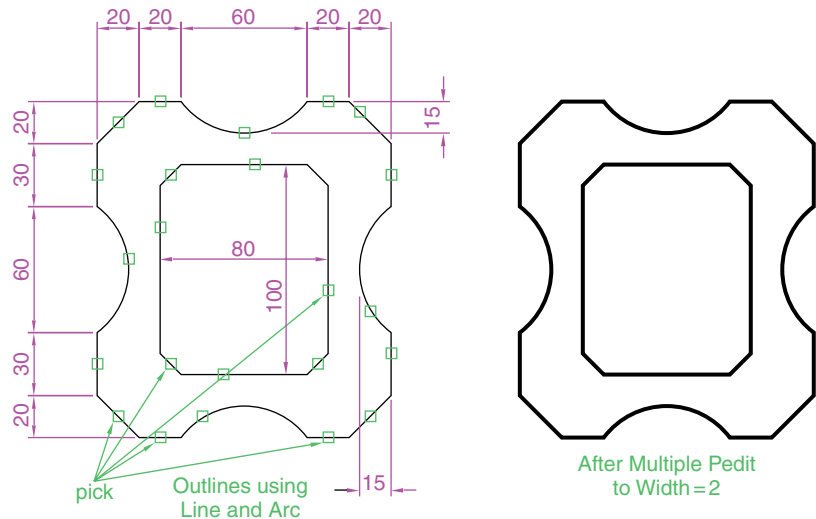

Fig. 3.31 Example – Multiple Polyline Edit
Example – Multiple Polyline Edit (Fig. 3.31)
1. With the **Polyline** tool construct the left-hand outlines of Fig. 3.31.
Select objects: *pick* any one of the lines or arcs of the left-hand outlines of Fig. 3.31 **1 found**
Continue selecting lines and arcs as shown by the *pick* boxes of the left-hand drawing of Fig. 3.31 until the command line shows:
The result is shown in the right-hand drawing of Fig. 3.31.